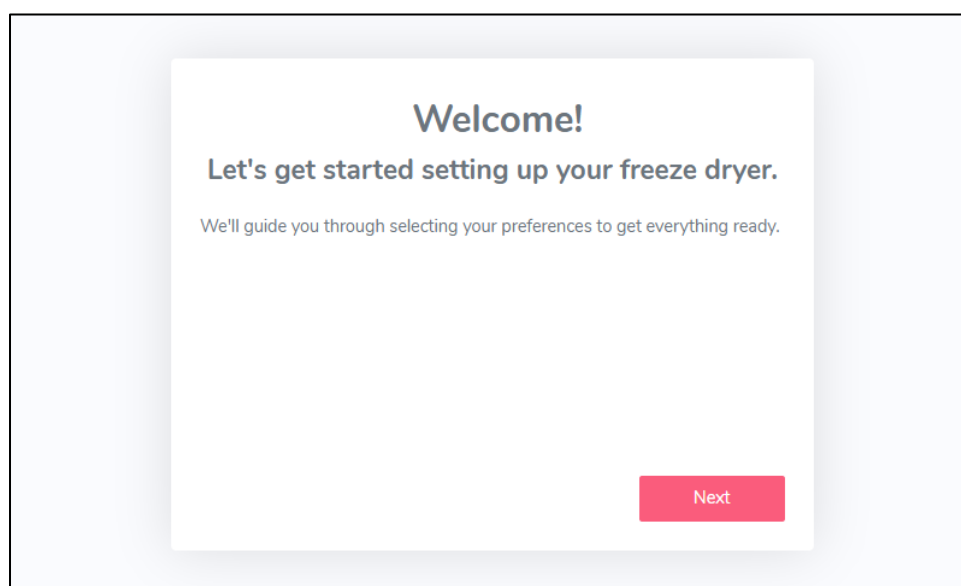

Figure 1
1. Shortly after powering on the machine, the Welcome screen is shown (Figure 1).